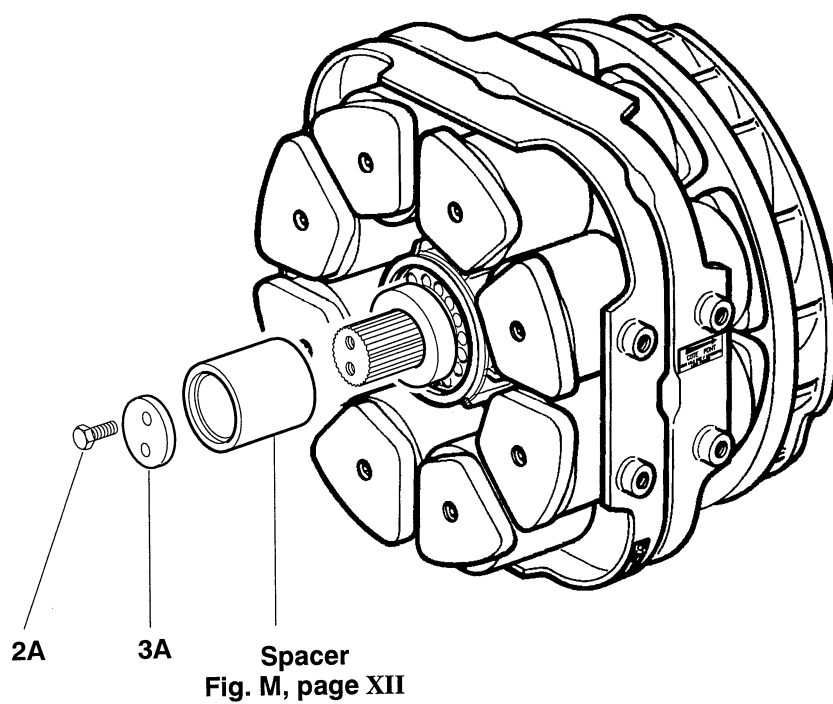

FIGURE 31
– Figures 31, 32 and 33
- Remove the shaft end screws, item 2A on the gearbox side as well as :
- the plate, item 3A
- Take the set of air–gap adjusting shims, item 8 and after thoroughly degreasing each shim, select the shims in order to obtain a total thickness of :